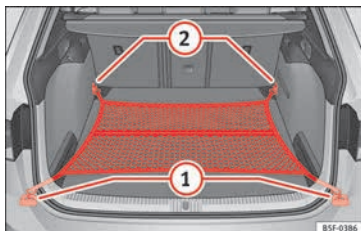

Fig. 176 In the luggage compartment: net bag hooked up at floor level (LEON ST model).
- As applicable, lift the front fastening rings » Fig. 176 (2).
- Secure the net hooks to the fastening rings (2) » ⚠. The bag zip should be facing upwards.
- Secure the net hooks to the fastening rings (1).